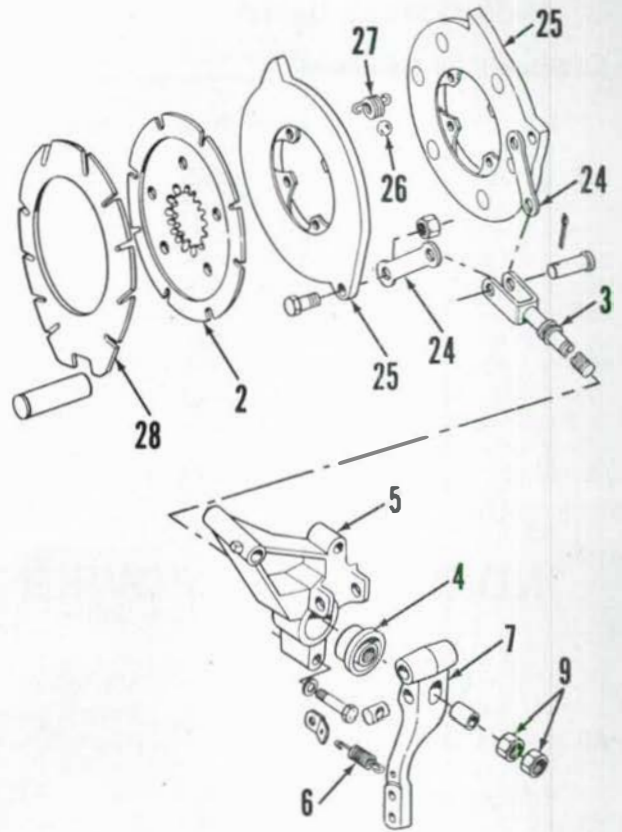

Fig. 164—Exploded view of wet disc brakes used on some Orchard models and all MF250 models. Except for intermediate plate (28), refer to Fig. 163 for legend.
Fig. 163—Exploded view of dry type disc brakes used on some Orchard models. Later Orchard models and all MF250 models are equipped with wet type brakes as shown in Fig. 164.
If brake parts and compartment are coated with oil on models equipped with dry brakes, make certain that necessary oil seals are renewed before reassembling brakes. Unhook springs (27—Fig. 163 or 164) and examine actuator unit (25) and balls (26) for wear or pitting. Groove depth in wet type friction discs (2—Fig. 164) is approximately 0.3 mm (0.012 inch) when new. Friction discs should be renewed when worn to the point that grooves begin to disappear. The intermediate plates (28) should be renewed whenever friction discs are renewed.